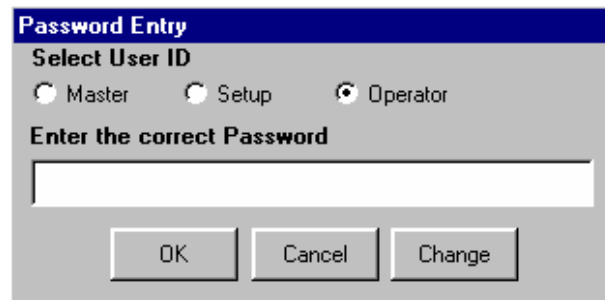

Figure 12.4 - Password Entry Box – How to Change the Active Password
- Click the **Lock Data** button on the main toolbar in order to display the password entry box. (Refer to Figure 12.4)